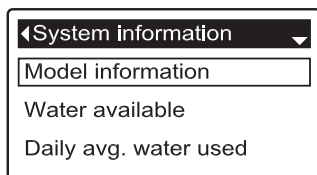

FIG. 50
3. Press the SELECT (O) button to display the System information menu (See Figure 50).
7. When finished viewing an information screen, press the SELECT (O) button. The display will go back to the System information menu (Figure 50). It will also exit automatically if no buttons are pressed for four minutes.